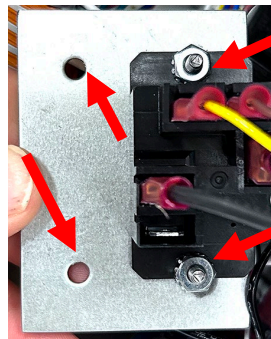

Figure 26
- On gas fryers, using the supplied plate, attach the relay to the plate. Attach to the control box using the existing holes as shown (see Figure 26 & 26A).